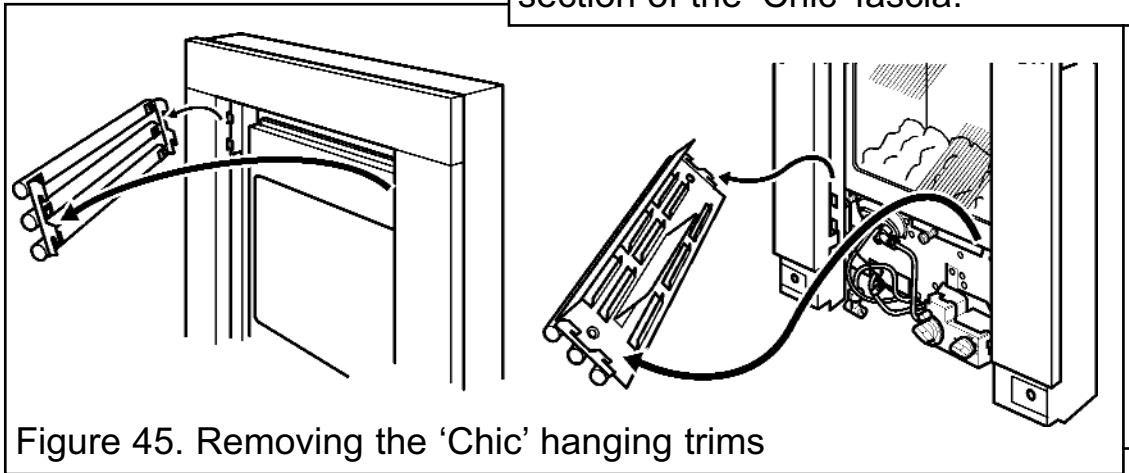

Figure 45. Removing the 'Chic' hanging trims
- Remove the two tubular trim sets from the top and bottom of the fascia. To do this simply lift upward and forward (See figure 45).